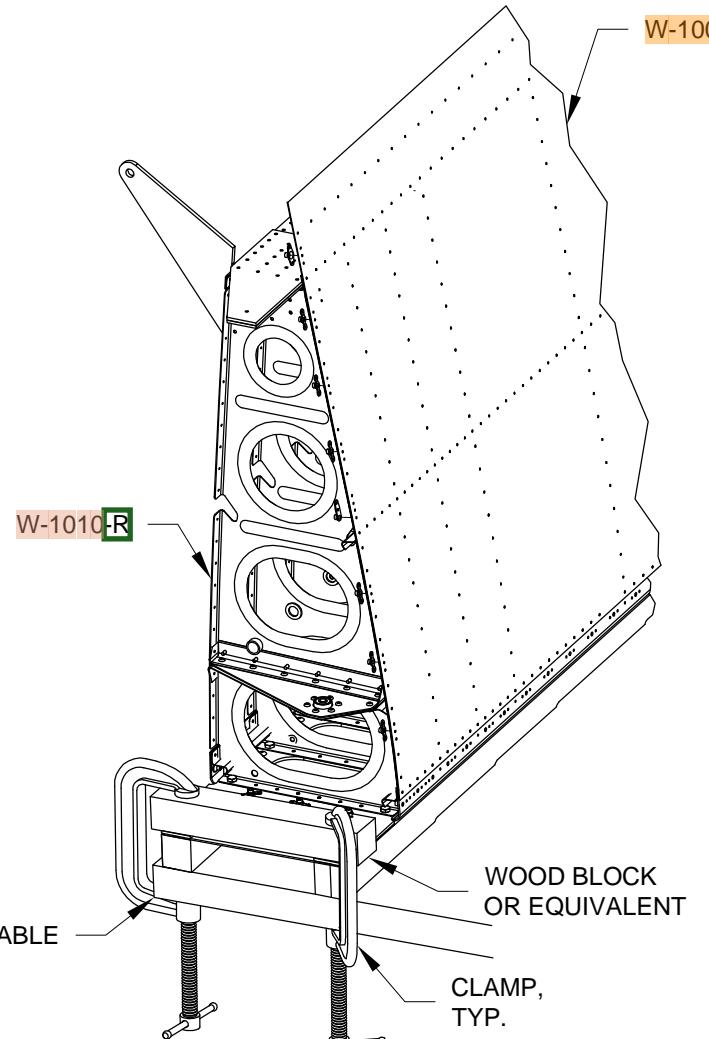

FIGURE 1: NUTPLATE INSTALL
Step 2: Lay the W-1028A and W-1028B Wing Box J-Stiffeners into the J-stiffener notches in the wing ribs. Cleco the W-1002 Top Inbd Wing Skin, W-1003 Top Outbd Wing Skin, W-1027A and W-1027B Wing Walk Doublers to the spars and ribs. Cleco the stiffeners to the top wing skins. Cleco the nutplates that attach along the inboard edge of the top inbd wing skin to the wing assembly (see Figure 1). Check that the top outbd wing skin is **on top** of the top inbd wing skin.
Step 3: Rivet the W-1002 Top Inbd Wing Skin and W-1003 Top Outbd Wing Skin to the W-1028A and W-1028B J-Stiffeners, ribs, rear spar and main spar. See Figure 2 and Figure 3 for the rivet callouts. When riveting the inboard most row of rivets, install the nutplates as indicated in Figure 1 to the W-1010R Inbd Wing Rib, W-1027A and W-1027B Wing Walk Doublers and top inbd wing skin. To assure maximum skin tightness, rivet from the center of each skin outwards towards the root and tip. Do this on both skins saving the double row of rivets at the lap joint until last. For a higher quality skin finish, back rivet the skins in place. This will require a large bucking bar, covered with plastic packaging tape, laid over the manufactured head of the rivet on the outside face of the skin and an extended back rivet set.